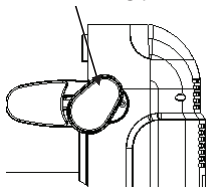

Figure 6-1
- Unplug the power connection, turn the charging barrel switch to the unlocking position (Figure 6-1), remove the charging barrel (when buzzer sounds once), and then take out the mixing fan blade to clean it and dry it with a towel.